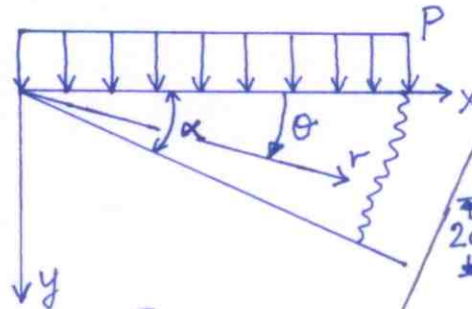

Fig. 2
2. The infinite wedge is loaded with a uniform load $P \text{ Nm}^{-2}$. Obtain the stresses $\sigma_{rr}, \sigma_{r\theta}, \sigma_{\theta\theta}$ as a function of r, θ, P, α . (Fig. 2)